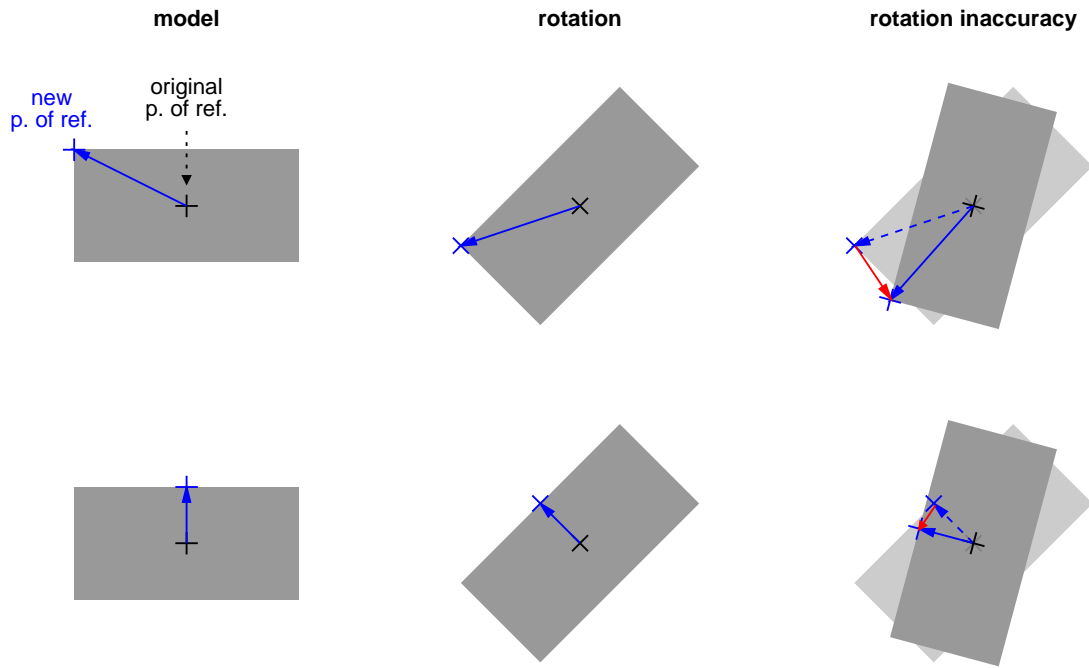

Figure 16: Effect of inaccuracy of the estimated orientation on a moved point of reference.
**point of reference** using `set_shape_model_origin`! This effect is visualized in figure 16: As you can see in the right-most column, an inaccuracy in the estimated orientation “moves” the modified point of reference, while the original point of reference is not affected. The resulting positional error depends on multiple factors, e.g., the offset of the reference point and the orientation of the found object. The main point to keep in mind is that the error increases linearly with the *distance* of the modified point of reference from the original one (compare the two rows in figure 16).